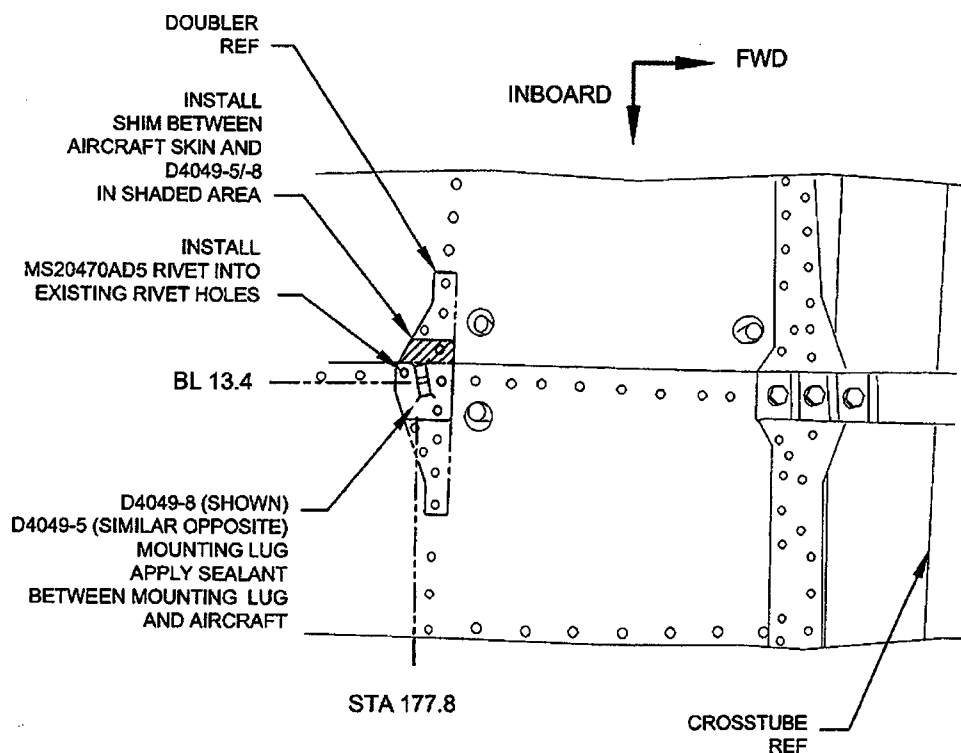

Figure 15 – Section J-J (New Hard Point Installation at STA 177.8)
- 3.4.7 Drill out MS20470 rivets as shown in Figure 15 for the installation of the D4049-5/-8 Mounting Lugs. Fabricate shims from 0.050"/0.063" aluminum sheet to take space between D4049-5/-8 as required. Attach the D4050-5/-8 strut to the basket and the D4049-5/-8 mounting lug as shown in Figure 19. Locate the D4049-5/-8 Mounting Lug on the aircraft skin and transfer Ø0.129" holes from the aircraft into D4049-5/-8 and shims. Open holes to Ø0.161" (#20 drill). Deburr and touch-up holes in the aircraft, Mounting Lugs and shims with MIL-P-85582 or MIL-P-23377 primer.
- 3.4.8 Install D4049-5/-8 Mounting lug using MS20470AD5 rivets as shown in Figure 15. Apply a layer of Proseal 890 or MIL-S-8802 class B2 sealant between D4049-5/-8 and the aircraft skin.